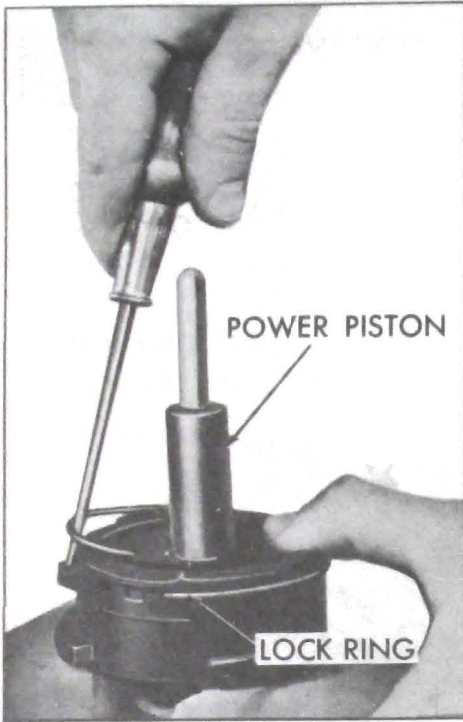

Figure 50-70--Removing Lock Ring from Power Piston
3. Remove lock ring from power piston by prying one end out from under large divided locking lug and then proceed to pull ring from under other two locking lugs on power piston. See Figure 50-70.
4. Remove reaction retainer, piston, reaction plate, three (3) reaction levers and air valve spring. Also remove reaction bumper and air